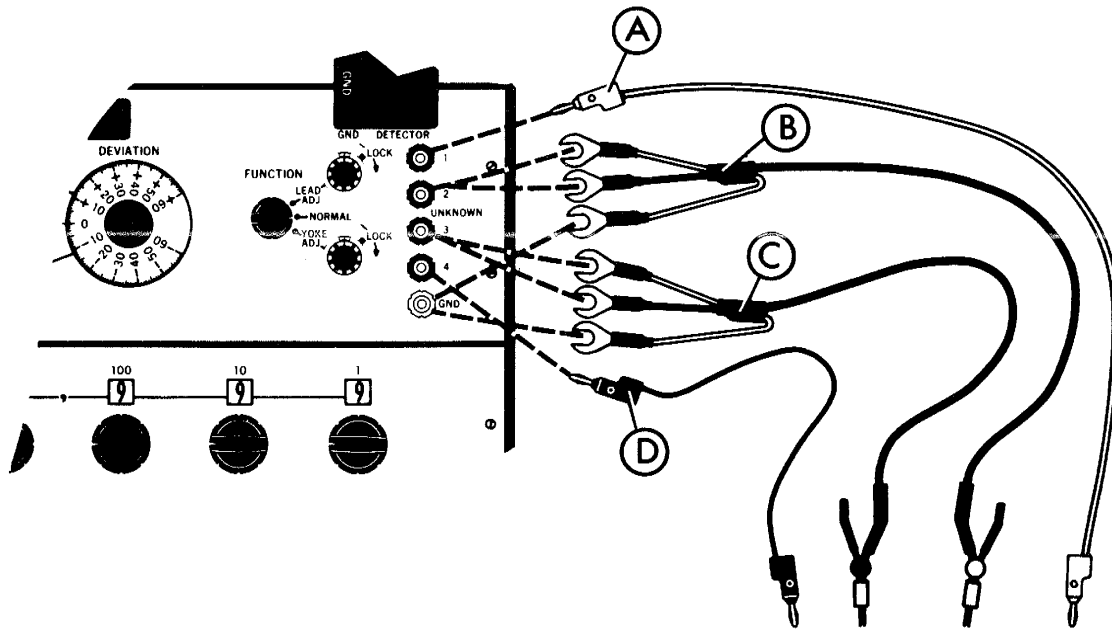

Figure 5-3. Lead Connections
2. Make the following 242D lead connections. Reference Figure 5-3.